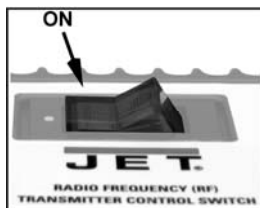

Figure 13A
2. On the main unit place the switch to the *ON* position (Figure 13A). The red LED on the main unit should light up.